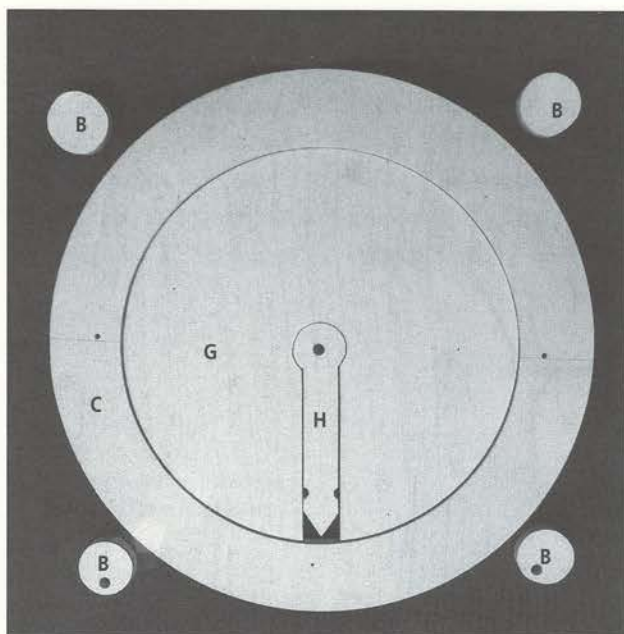

Fig 5.6 Parts B, C, G and H sawn from the third ply square.
Fig 5.6 shows the parts: outer ring (C), retaining disc (G), hour number discs (B) and the minute hand (H) that have all been sawn from the third plywood square.